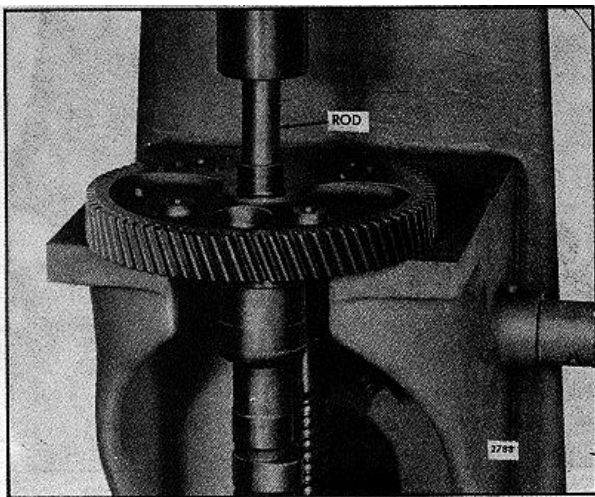

FIG.4 - Removing Camshaft Gear
2. Place one of the camshaft and gear assemblies in an arbor press as shown in Fig. 4.